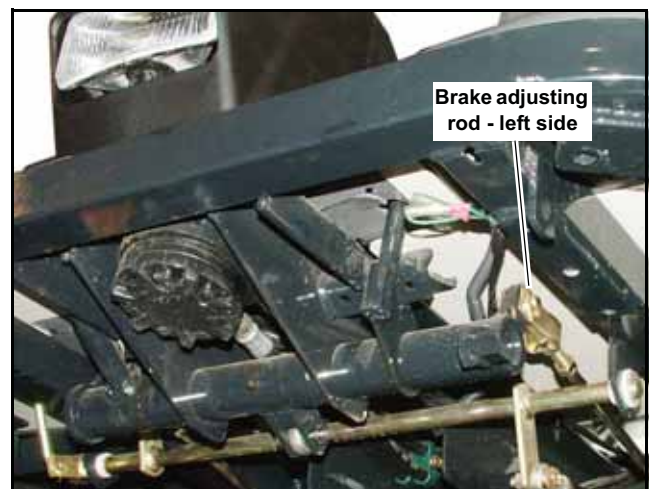
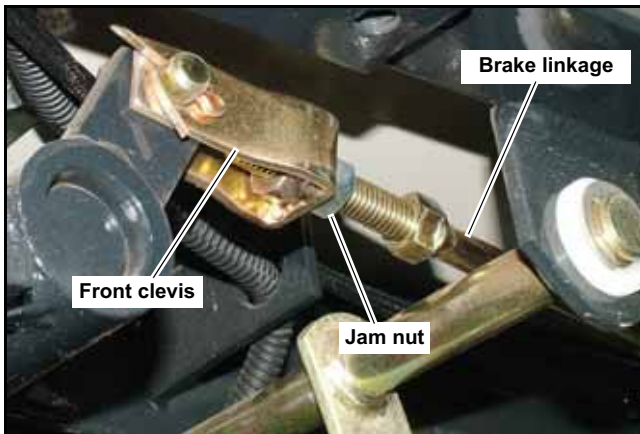

Figure 4-35
Figure 4-36
3. The brake linkage rods are located underneath the floor pan. (Figure 4-35) Loosen the jam nuts located behind the front clevis on each of the brake linkage rod assemblies. Back the jam nuts off. Figure 4-36